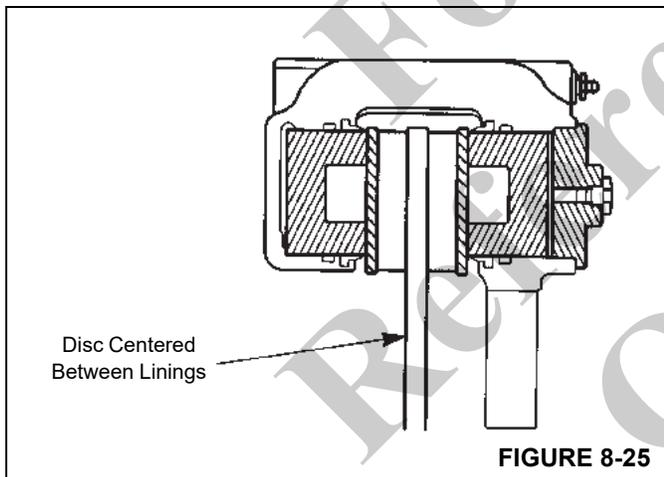

FIGURE 8-25
- b. The shims must be steel, ground flat, and parallel and must cover the entire mounting surface of the hub or housing. The linings must move freely in the housing and between the end plates. Refer to Figure 8-25.